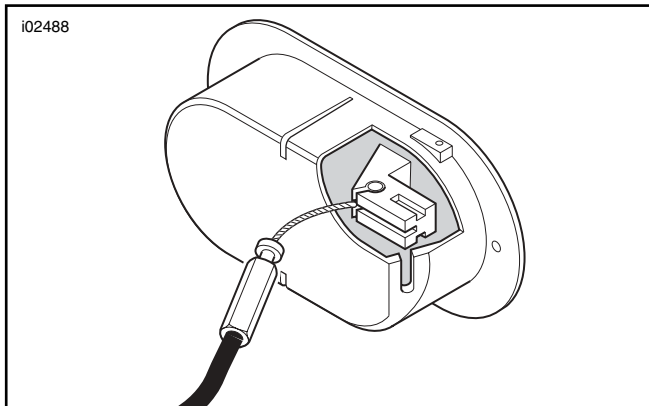
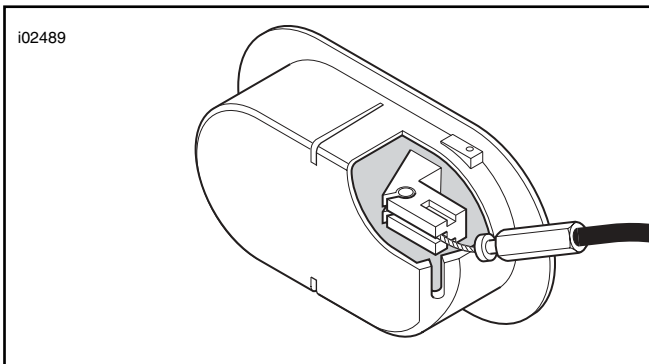

Figure 4. Pin Fully Inserted in Vertical Slot
Figure 5. Rotate Cable Into Horizontal Slot
5. See Figure 4. Rotate the pin to align the cable end with the vertical slot in the handle, then use a firm downward pressure to insert the cable and pin further into the hole and the vertical slot until the cable lines up with the horizontal slot (see Figure 5).